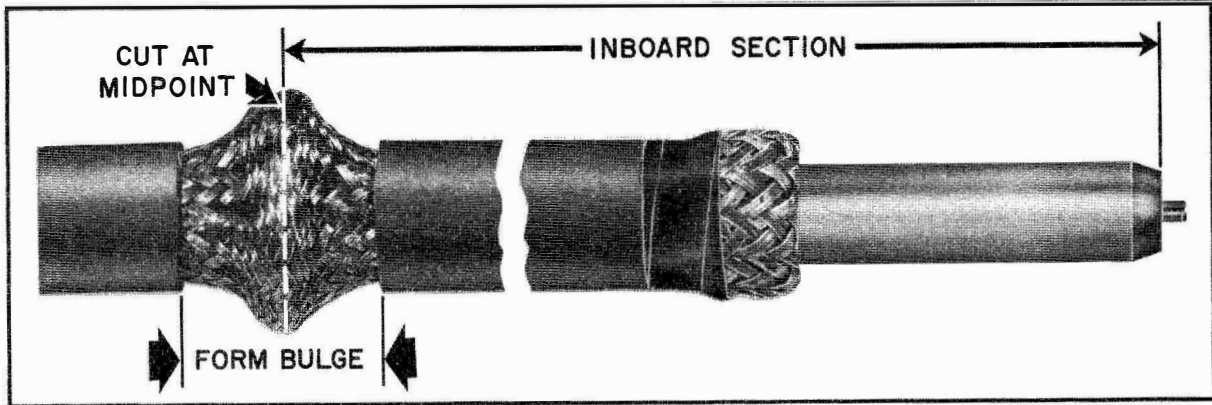

Figure 5-8e Bulge in Braid
Step 4. - Make a bulge in the outer conductor braid where the cable is to pass through the hull fitting sliding the inboard section of jacket and braid toward the outboard section of cable (see figure 5-8e). Cut the bulged braid